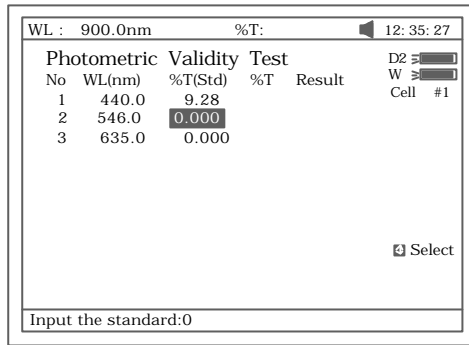

Fig 91
2. Press **【F1】** to set the standard value, Press **【ENTER】** to edit and input by pressing the numeric keypad (Fig 91). **【ESC/STOP】** to finish inputting and exit.